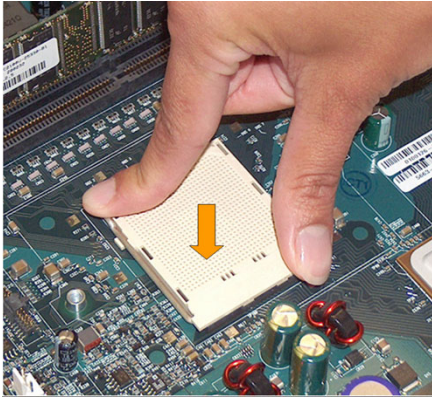

Figure 7. Ensure Proper Contact Between Backplate and Motherboard
6. Press firmly on the processor socket to ensure proper contact between the backplate and motherboard. (See Figure 7 on page 15.)
Note: The processor socket may be different from the socket pictured in Figure 7, depending on the version of the AMD Athlon 64 processor being used.